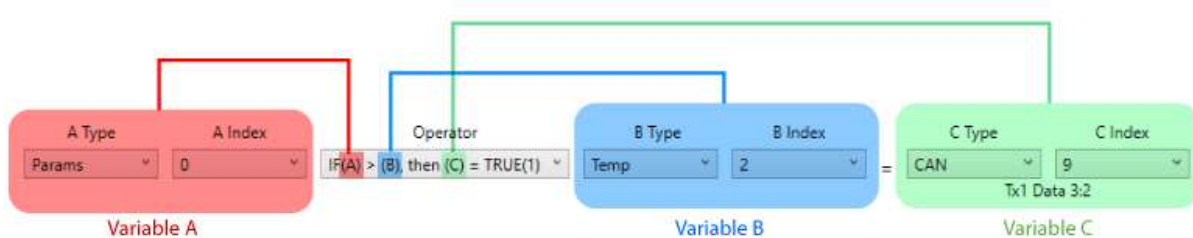

Figure 14
In a Configurator instruction, the module parameter that Variable A, B, or C represents is specified by a Type field and an Index Number field. Thus, each variable appearing in an operation has two drop-down menus associated with it. For example, in Figure 14, the user has selected *IF (A) > (B), then (C) = TRUE(1)* as the Operator. As a result, the row was populated with drop down menus for variables A (highlighted in red), B (highlighted in blue), and C (highlighted in green).
The module parameters available through the Type and Index drop-down menus in Figure 14 are presented on the pages below. Note that each parameter value is 16 bits.